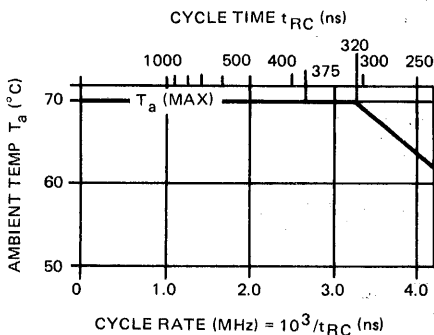
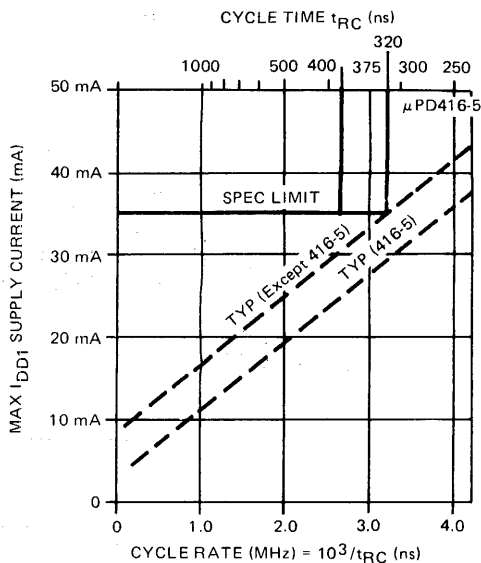

FIGURE 1
FIGURE 2
- Notes: ① T_a is specified here for operation at frequencies to t_{RC} > t_{RC} (min). Operation at higher cycle rates with reduced ambient temperatures and high power dissipation is permissible, however, provided AC operating parameters are met. See Figure 1 for derating curve.
- ② All voltages referenced to V_{SS}.
- ③ Output voltage will swing from V_{SS} to V_{CC} when activated with no current loading. For purposes of maintaining data in standby mode, V_{CC} may be reduced to V_{SS} without affecting refresh operations or data retention. However, the V_{OH} (min) specification is not guaranteed in this mode.
- ④ I_{DD1}, I_{DD3}, and I_{DD4} depend on cycle rate. See Figures 2, 3 and 4 for I_{DD} limits at other cycle rates.
- ⑤ I_{CC1} and I_{CC4} depend upon output loading. During readout of high level data V_{CC} is connected through a low impedance (135Ω typ) to data out. At all other times I_{CC} consists of leakage currents only.